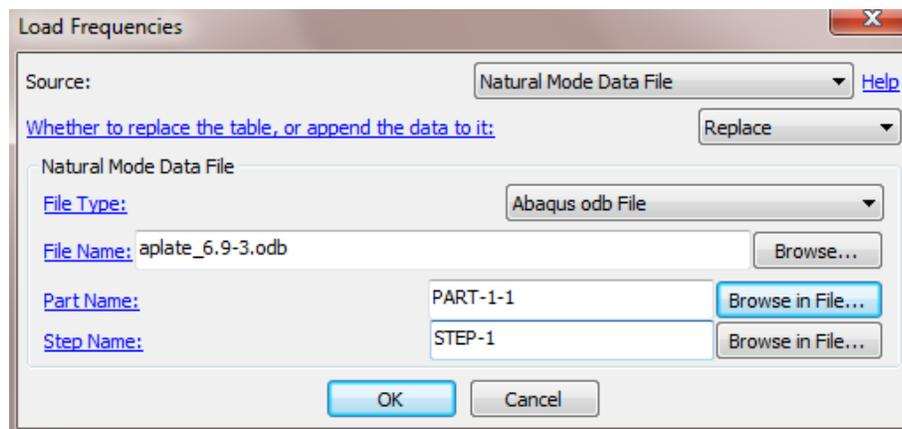

**Figure 7.19** Load frequencies from frequency response data file.
**7.2.2.3. Frequency Response Data File** Analysis frequencies could be extracted from a frequency response data file using this option (Figure 7.19). Select appropriate parameters described below and press